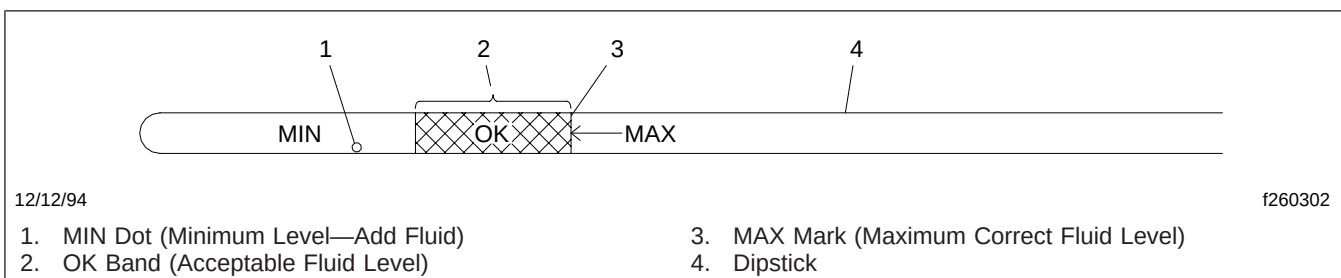

Fig. 13, Dipstick Fluid Level Markings, Chrysler Transmission
- 4.1 If the fluid is warm, any level above the MIN dot (see Fig. 13) is satisfactory. If the level is at or below the MIN dot, use a funnel to add fluid until the level is above this dot. At the next opportunity, check the fluid when it is hot.
- 4.2 If the fluid is hot, any level within the OK band (see Fig. 13) is satisfactory. If the level is below the OK band, use a funnel to add just enough fluid to bring the level up to the MAX mark. **Do not overfill.**